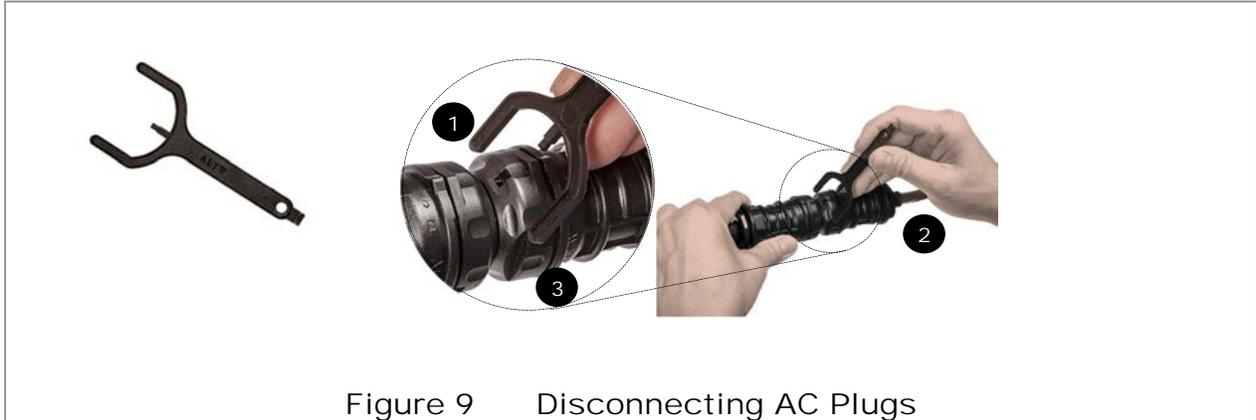
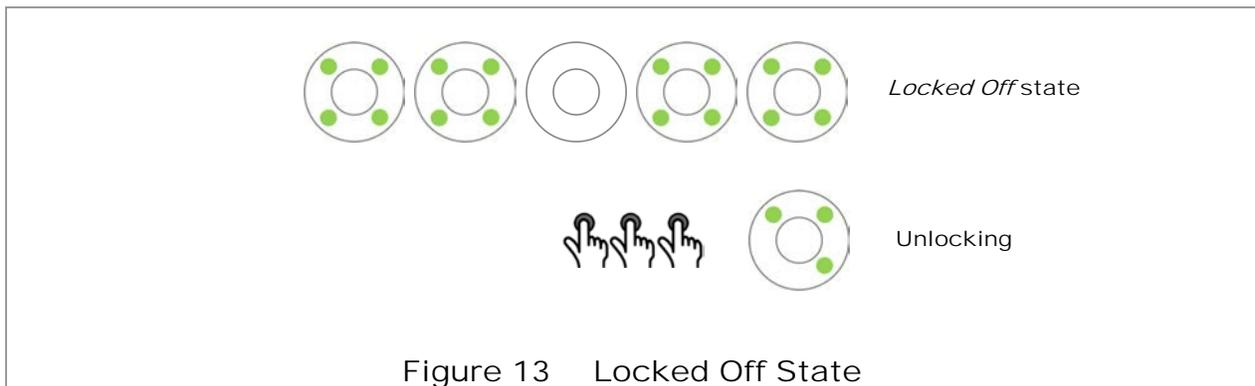

Figure 9 Disconnecting AC Plugs
Figure 12 Disconnecting PV Plugs
1. Use the DC tool to disconnect the male and female connectors. Follow steps 1 and 2 in Figure 12.
When disconnecting the PHXL480-10k, perform the lettered steps (from pages 14 through 19) in reverse. (See Figure 9 on page 16 and Figure 12 on page 17.) The ground is the last item to be disconnected.